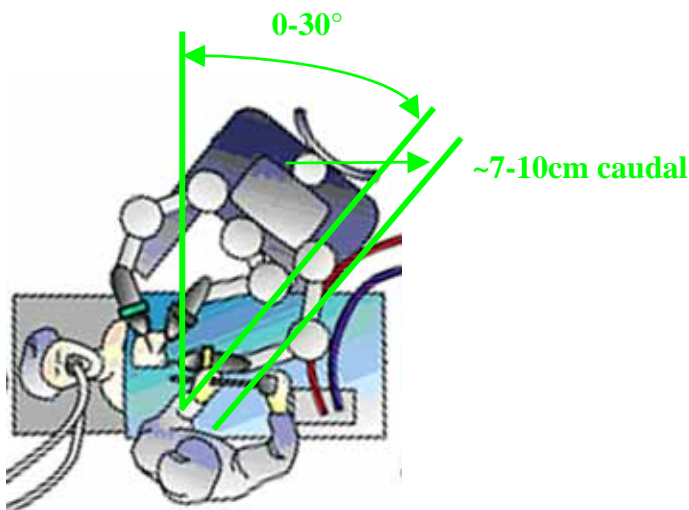

Figure 16: Patient Cart rolled in at a slight angle and offset towards the patient’s feet to provide more space for the 3rd instrument arm on the left side.
- The *da Vinci* Patient Cart is rolled in at a 0-30° angle to accommodate for the natural position of the mitral valve in the chest (depending on patient's anatomy). The central column should be lined up ~7-10cm caudal of the camera port in the right chest to allow more space on the left for the *da Vinci* arms. [Figure 16]